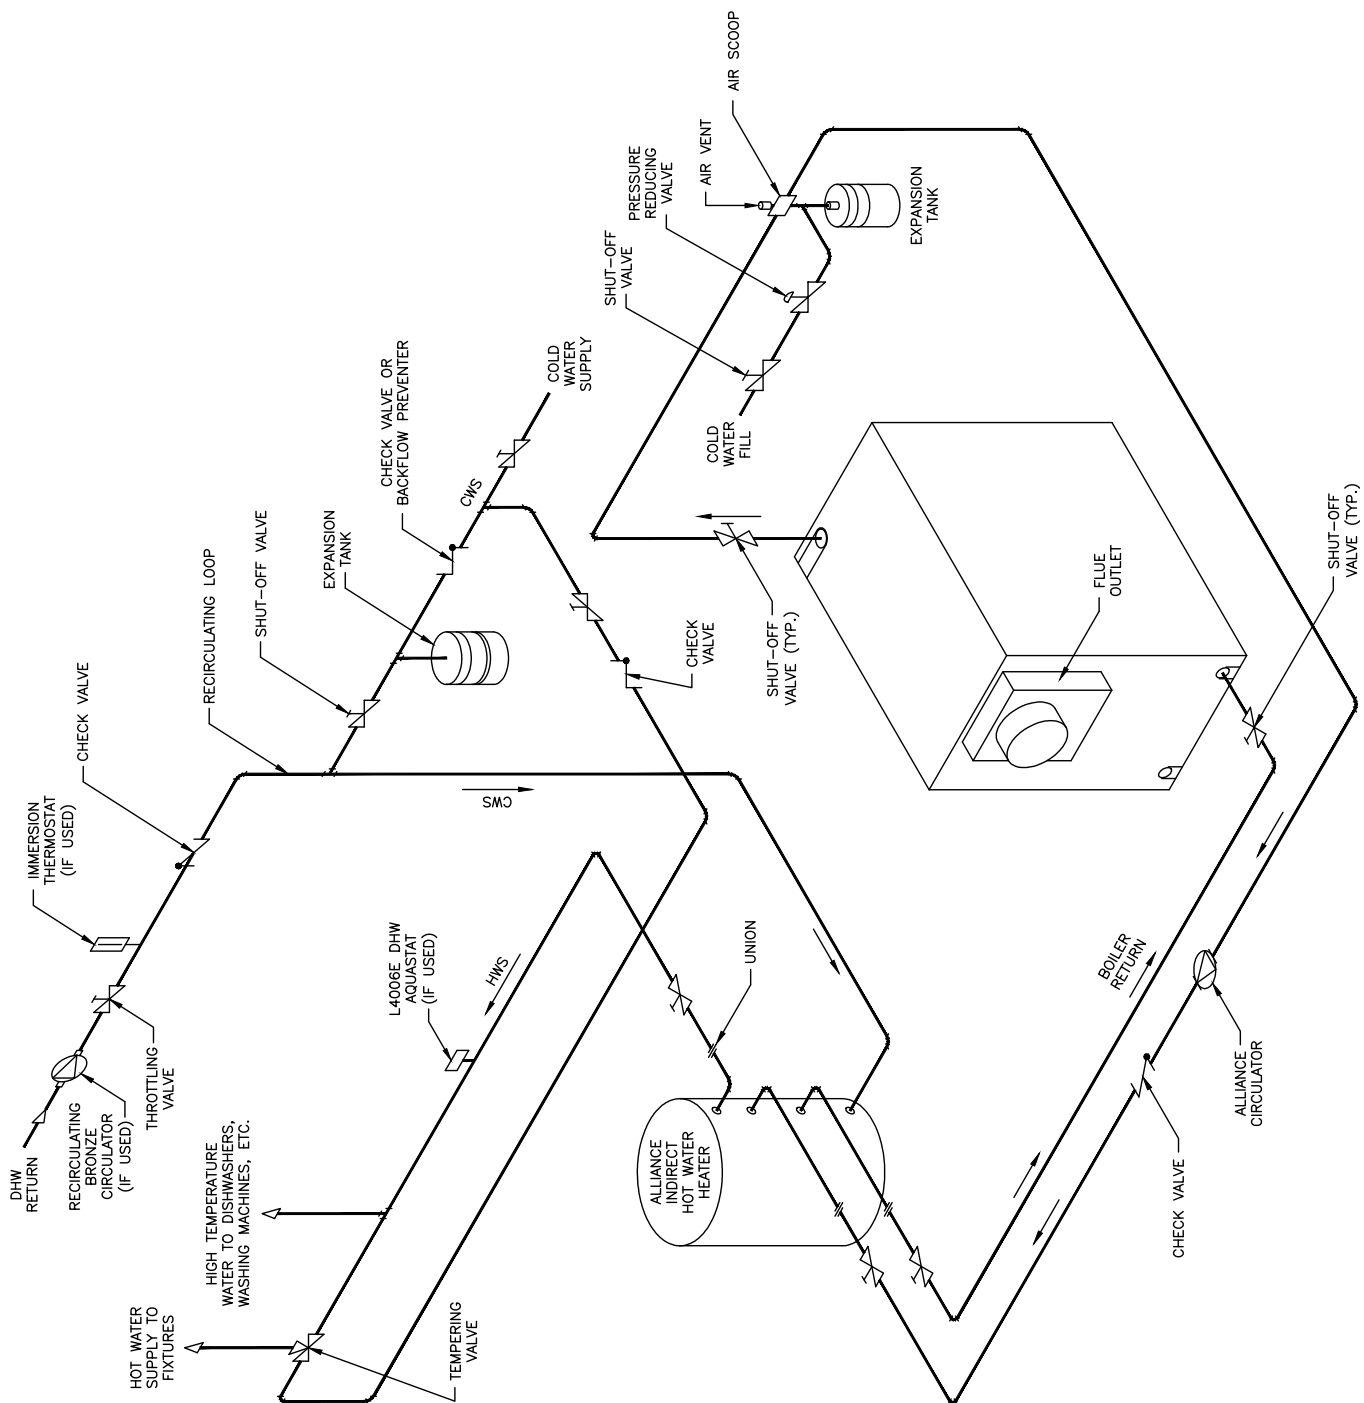

Figure 42b: DHW Generation with Indirect Water Heater
- Hot Water Boiler/Indirect Water Heater - The use of indirect water heaters for domestic hot water generation is common and somewhat advantageous over tankless coils alone, since they also provide DHW storage. A tempering valve and recirculating pump are again recommended for a dual temperature system, to provide a constant temperature to the fixtures without waiting for cooler water to warm up. Figure 42b shows a typical indirect heater piping application with no space heating. Indirect pump flow rates are calculated based on a 20°FΔT.